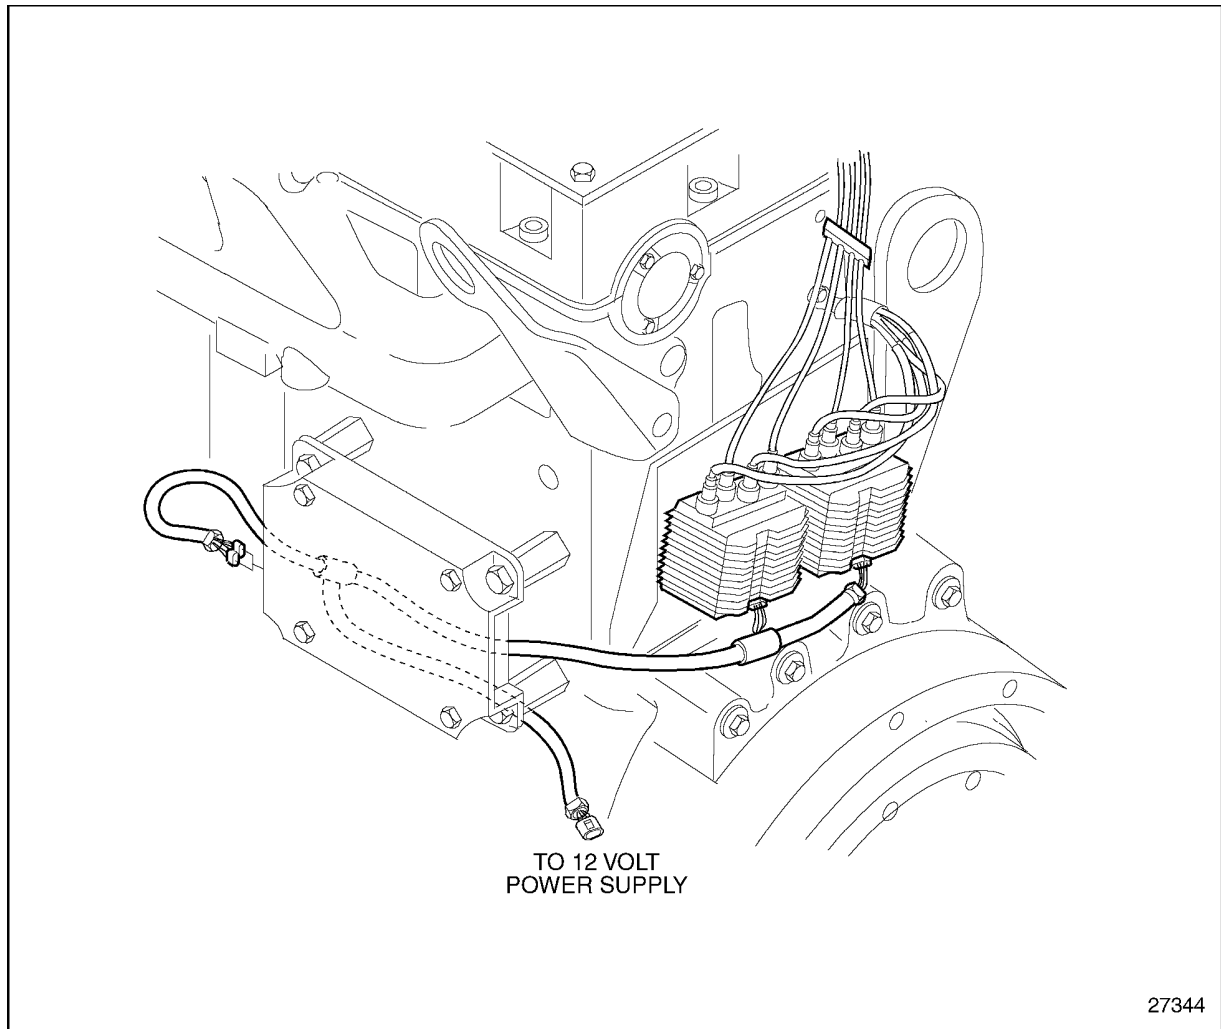

Figure 15-11 Ignition Coil Harness Location
The ignition coil harness provides the 12 volt power to the ignition coils and transmits the command signals from the ECM to the coil packs. See Figure 15-11.
2. Disconnect the ignition coil harness from the 12 volt power supply. See Figure 15-11.